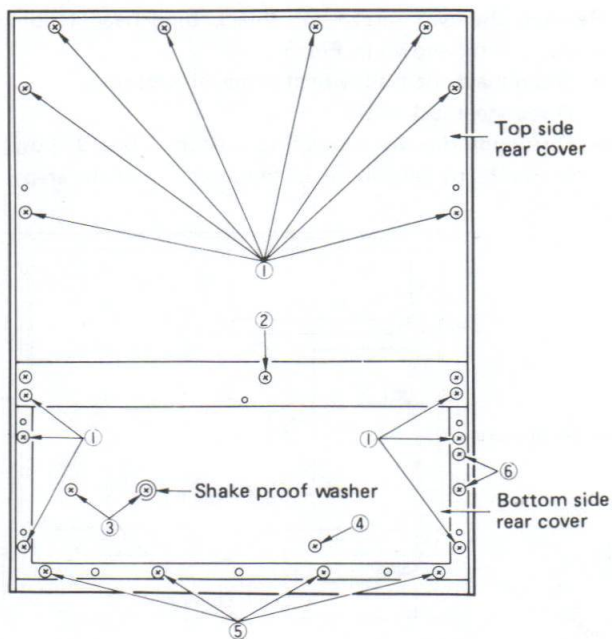

Fig. 1
1. Removal of Rear Cover (Refer to Fig. 1.)